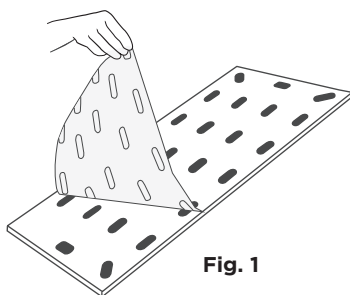

Fig. 1
- 4.4 Remove the protective film from the tile. **(Fig. 1)**